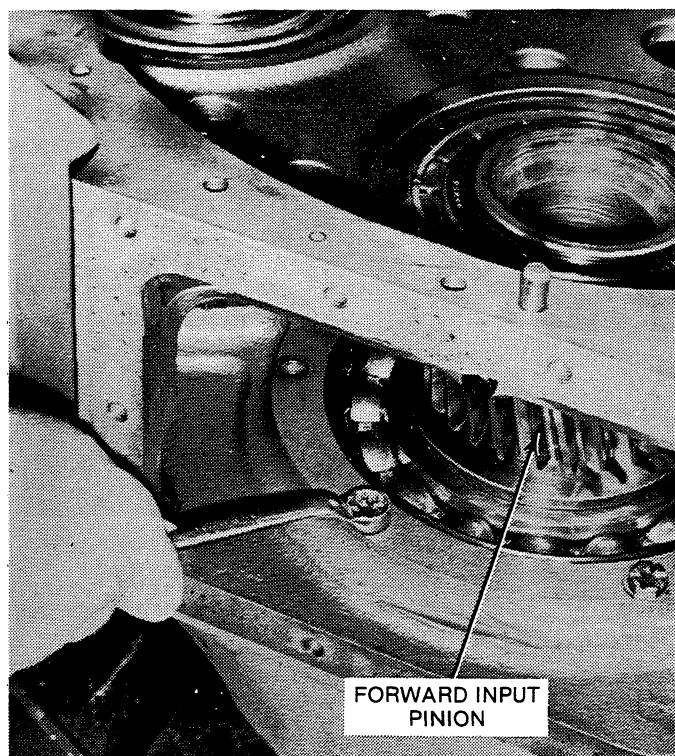

Figure 6-37. Removing or Installing Screws on Bearing Retainer.
1. Remove six place-head screws (Figure 12-2, 1) from bearing retainer (2). See Figure 6-37.